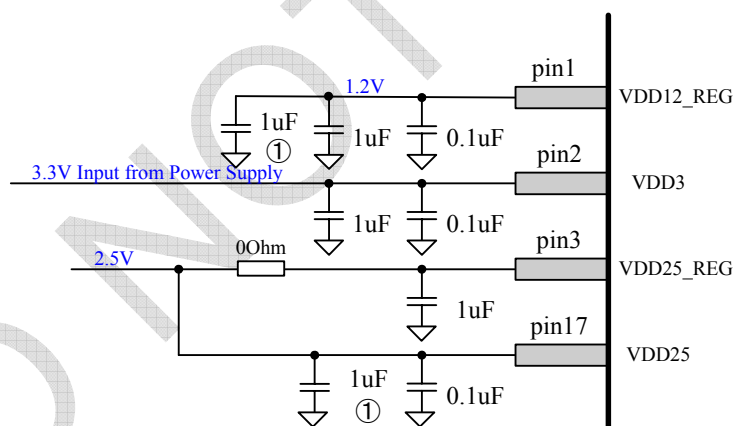

Figure 19: 3.3V/2.5V/1.2V power supply circuit
Figure 19 is 3.3V/2.5V/1.2V power supply schematic circuit for commercial version AR8032.
2.5V power supply is generated by on chip regulator. The schematic circuit is as shown in *Figure 19*.
1.2V power supply is generated by on chip regulator. The schematic circuit is as shown in *Figure 19*.